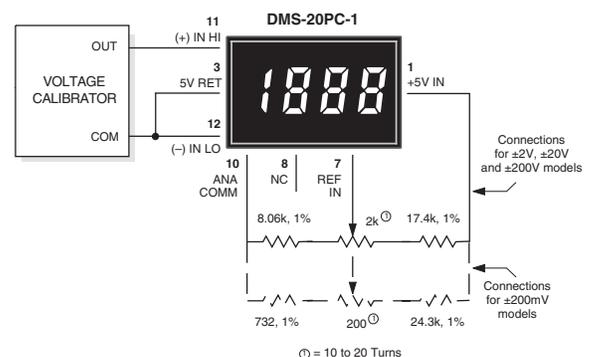

Figure 10. External Gain Adjustment
6. Gain Adjust: There is a gain-adjust potentiometer on the back of each meter. It has approximately ±50 counts (±2.5%) range of adjustment. Since these devices essentially have no zero/offset errors, a gain adjustment is effectively an overall accuracy adjustment. Though they may be performed at any point (except zero), accuracy adjustments are most effective when performed with higher level input signals. The circuit shown in Figure 10 provides ±10% range of adjustment.
8. External Gain Adjustment: Connect REFERENCE OUT (pin 8) to REFERENCE IN (pin 7) for normal, factory calibrated, operation. Use the circuit shown in Figure 10 for applications needing external gain adjustment. Calibration is performed with a precise, near-full-scale, input voltage.